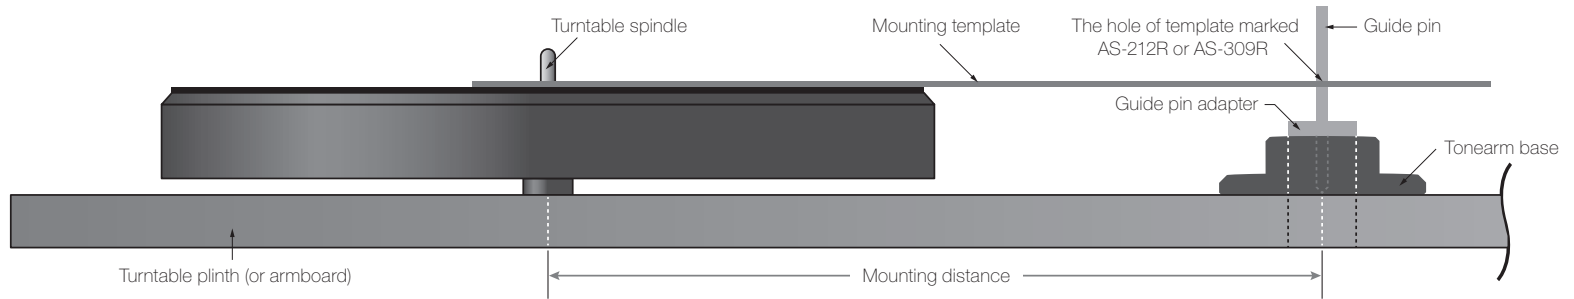

Figure 8
3. Place the spindle hole of the supplied Paper Mounting Template onto the turntable spindle and determine the position of the arm base (Figure 8 and 9).